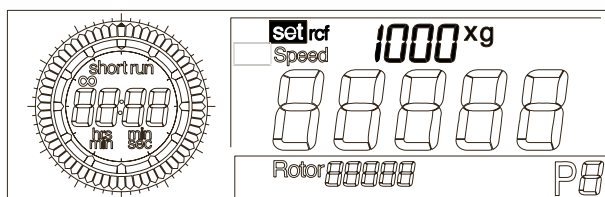

Fig. 5.13:
- Turn the left rotary knob until "set" appears in front of the parameter "rcf" on the display (Fig. 5.13).